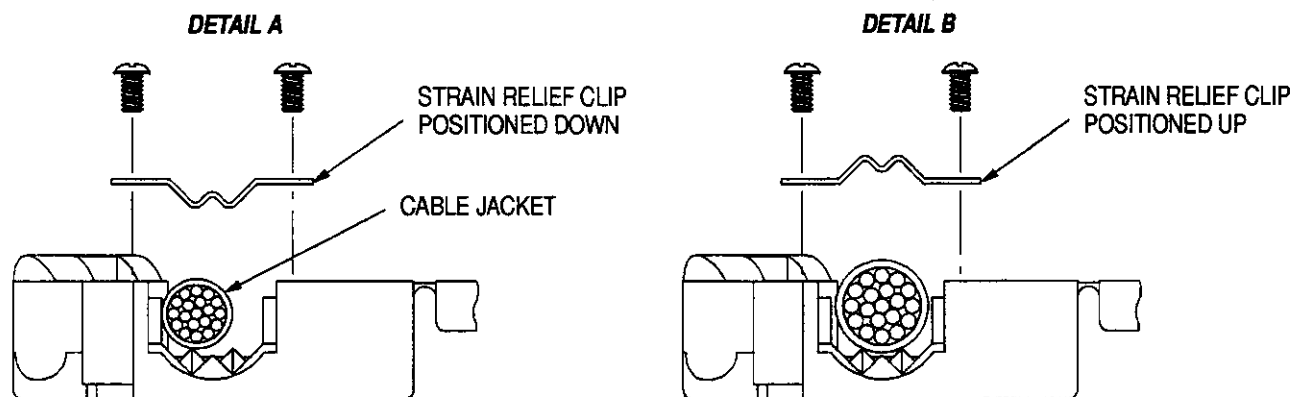

Figure 4
a. For cable with a small outside diameter, orient the strain relief clip down, as shown in Figure 4, Detail A.
b. For cable with a large outside diameter, orient clip up, as shown in Figure 4, Detail B.